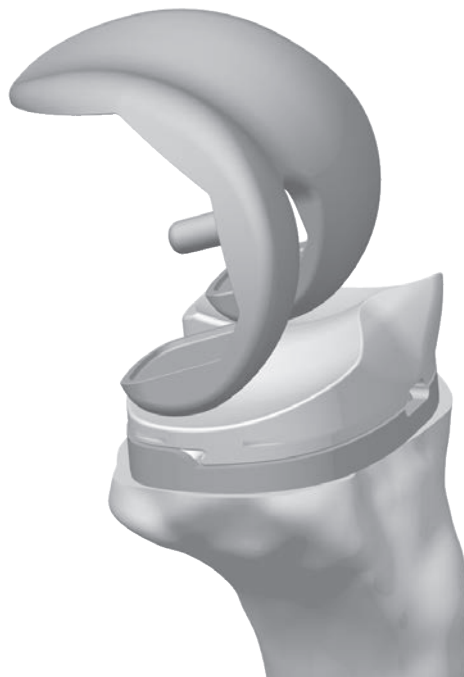

Fig. 89
- If a CR femoral implant is to be used and the PCL is recessed or becomes deficient intraoperatively, the PCL should be fully resected and the *Medial Congruent* (MC) or Ultracongruent (UC) TASP should be trialed to assure desired ROM and joint stability prior to articular surface implant selection.
- When trialing with either a CR or MC insert and the PCL is retained, posterior soft tissue tightness may occur, resulting in the femur booking open (Fig. 89). Should this occur, consider resecting the PCL. If the PCL is resected, either a MC or UC insert should be used.